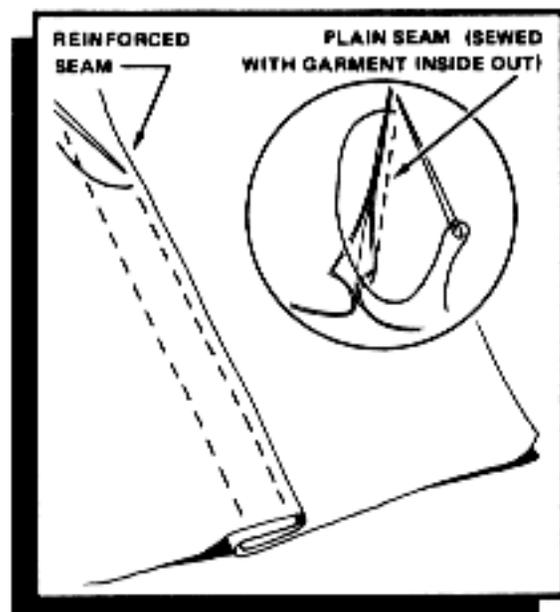
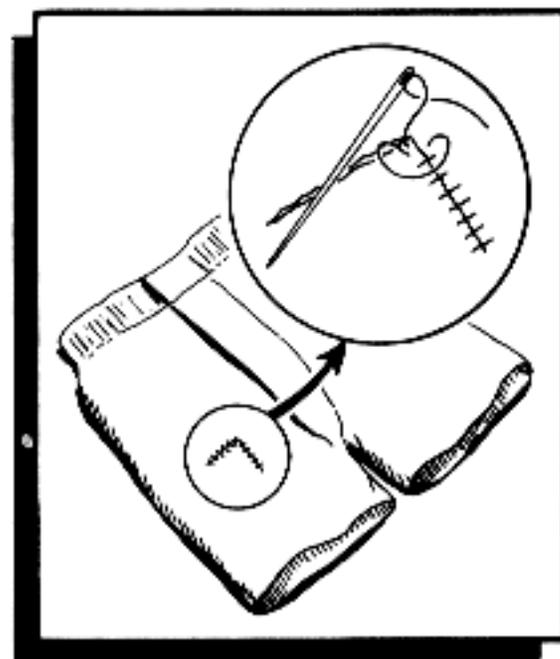

Figure 1-1. Repairing a rip.
Figure 1-2. Repairing a tear.
**Repairing rips, tears, and frayed edges.** When you repair a ripped seam (figure 1-1), turn the garment inside out. Then place the two edges together and sew. When you repair a tear (figure 1-2), turn the garment